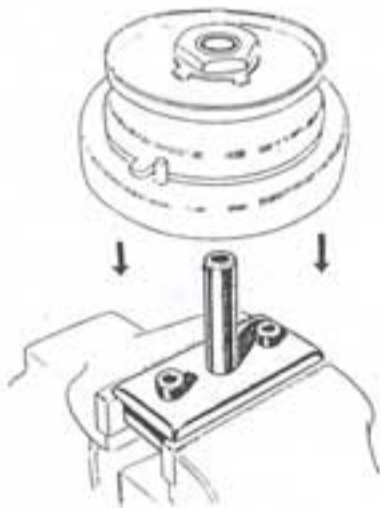

Fig. 1
- Install the dismantling tool, No. 100026, in the jaws of a vice (fig. 1).
- Place the variator on this tool (fig. 1).